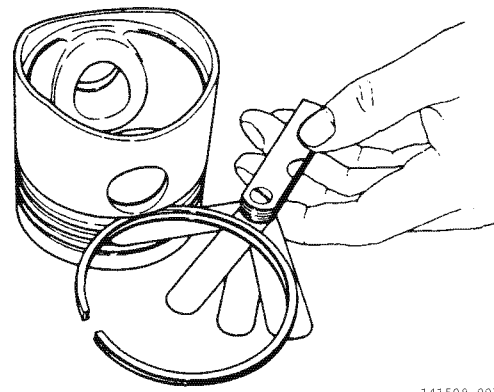

Figure 6-77
9. Place each compression piston ring in the groove as shown (**Figure 6-77**). Use a feeler gauge to measure the clearance between the piston ring and the piston ring land. Record the measurements. See *Piston Ring* on page 6-11 for specifications. Replace the piston if not within specification.